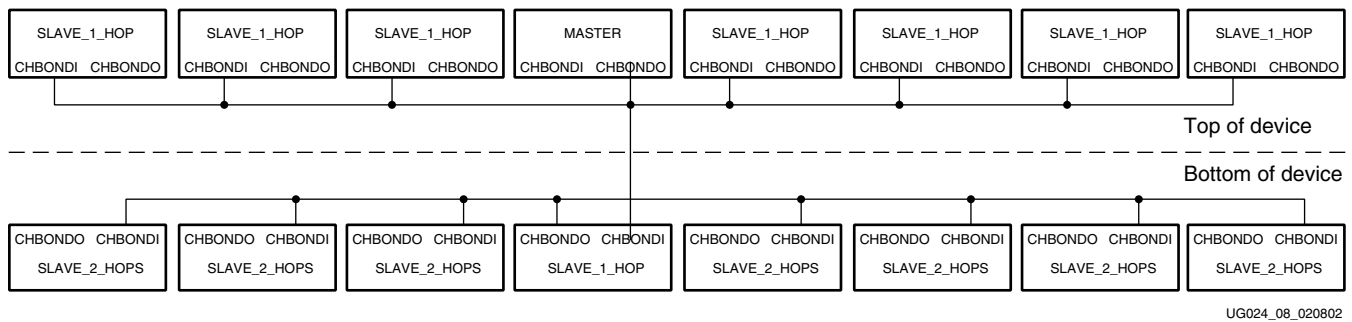

Figure 5-2: 2VP50 Implementation
Figure 5-2 shows the channel bonding mode and linking for a 2VP50, which (optionally) contains more transceivers (16) per chip. To ensure the timing is met on the link between the CHBONDO and CHBONDI ports, a constraint must be added to check the time delay. The UCF example below shows and describes this.